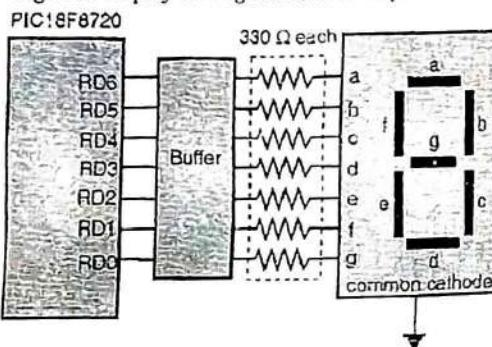

Fig. 7.4.4 : Driving a signal seven-segment display
- Seven-segment displays are often used when the embedded product needs to display few digits (upto 8 or 16) and few letters. Although a PIC18F8720 microcontroller has enough current to drive a seven-segment display, a pull up resistor is advisable as there may be some more I/O devices in the system. In Fig. 7.4.4 port D drives a common-cathode seven-segment display through the buffer chip 74HC244.
- (a) The seven-segment display shown in Fig. 7.4.4.
- (a) To display 5 on the seven segment display (shown in Fig. 7.4.4) the following things need to be done